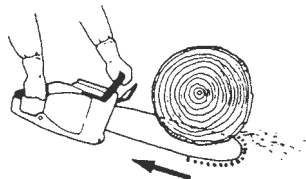

Fig. 18
- When cutting with the upper part of the chain the reactive force will push the saw towards you and away from the wood you are cutting. (Fig. 18)